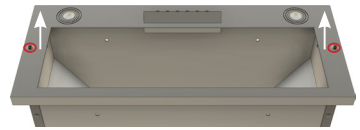

Figure 2
- Remove the Mesh Filters and the Screws on both sides. **(Figure 2)**